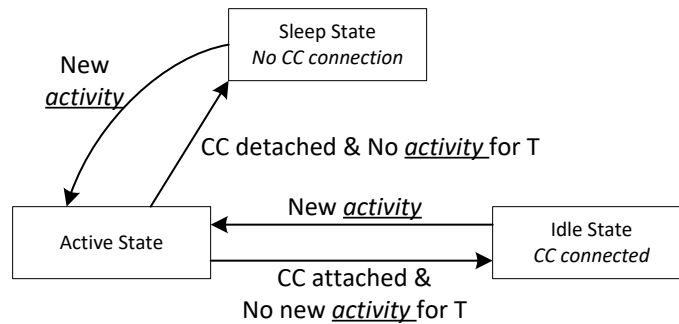

図 8-26. Flow Diagram for Power States
The TPS25730 can operate in one of three different power states: Active, Idle, or Sleep. The Modern Standby mode is a special case of the Idle mode. The functionality available in each state is summarized in 表 8-9. The device automatically transitions between the three power states based on the circuits that are active and required. See 図 8-26. In the Sleep state, the TPS25730 detects a Type-C connection. Transitioning between the Active mode to Idle mode requires a period of time (T) without any of the following activity: